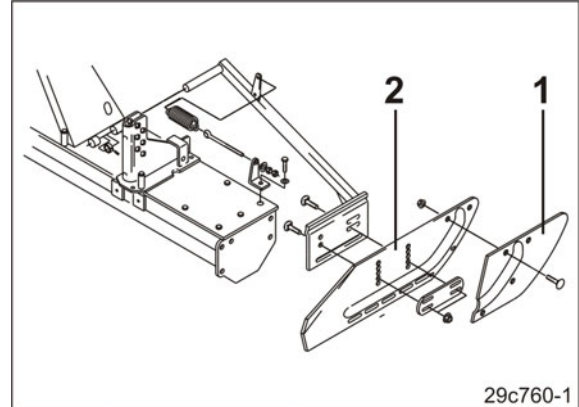

Fig. 18
1. Bolt the side guide plate extensions (Fig. 18/1) on to the side guide plates (Fig. 18/2) of the rotary cultivator / harrow.